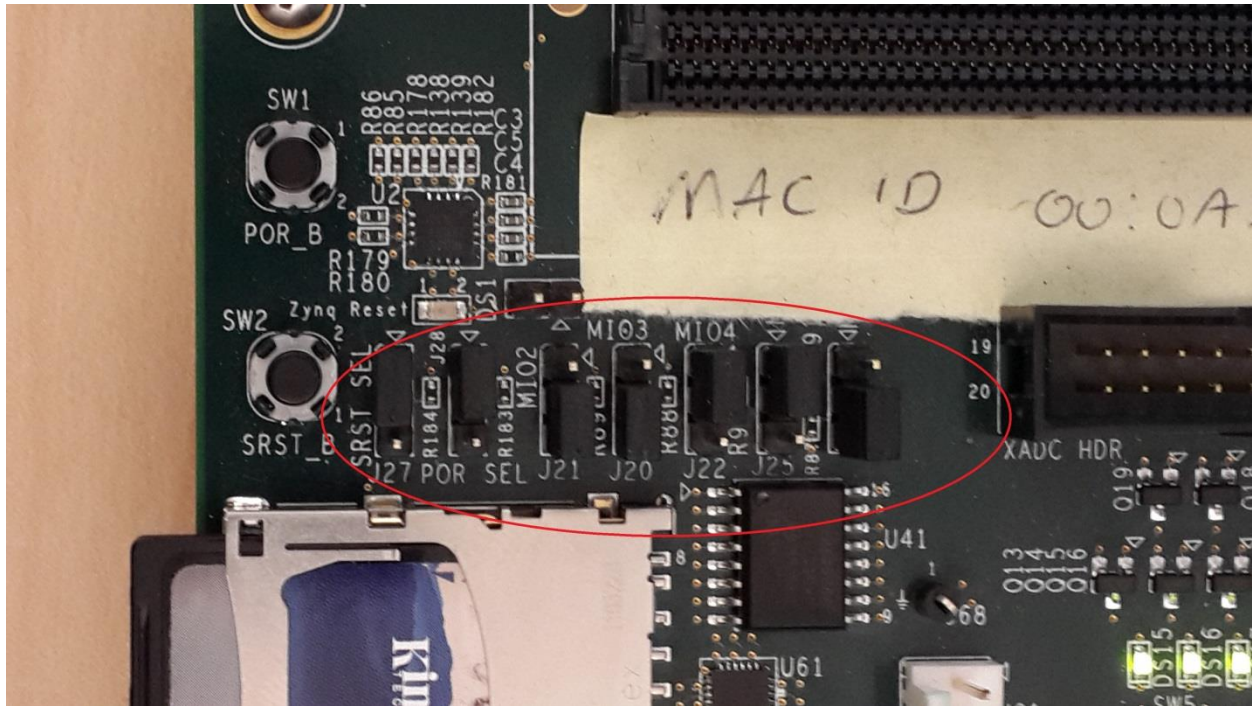

Figure 26. Jumper settings for SD boot
- Set the jumpers to SD-boot mode but do not plug in an SD card as shown in Figure 26. Depending on the version of the zc702 board, you might see switches instead of jumpers and the SD boot settings are documented in ZC702 Evaluation Board for the Zynq-7000 XC7Z020 All Programmable SoC User Guide (UG 850), Figure 1-2 and Table 1-2.